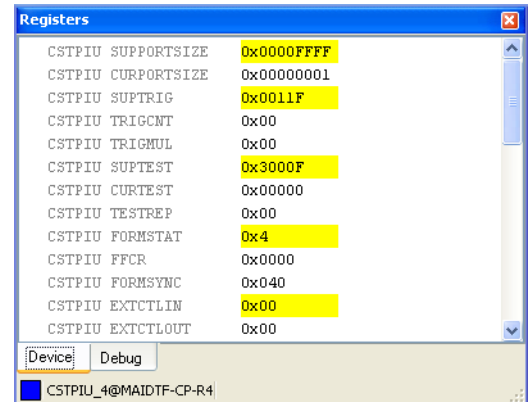

Figure B-4 CSTPIU registers in the Registers view
- b. Set up the TPIU registers. Figure B-4 shows an example: